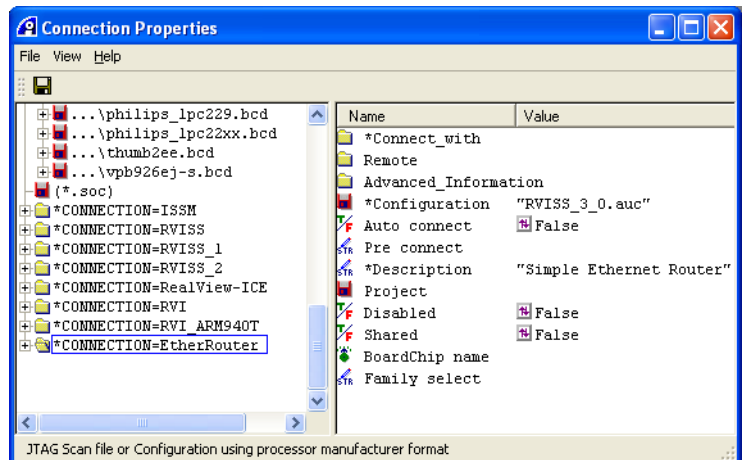

Figure 5-6 Connection properties for the RVI Debug Configuration
1. In the Connection Properties window, select CONNECTION=EthernetRouter in the left pane to display the settings for the EthernetRouter Debug Configuration, shown in Figure 5-6.